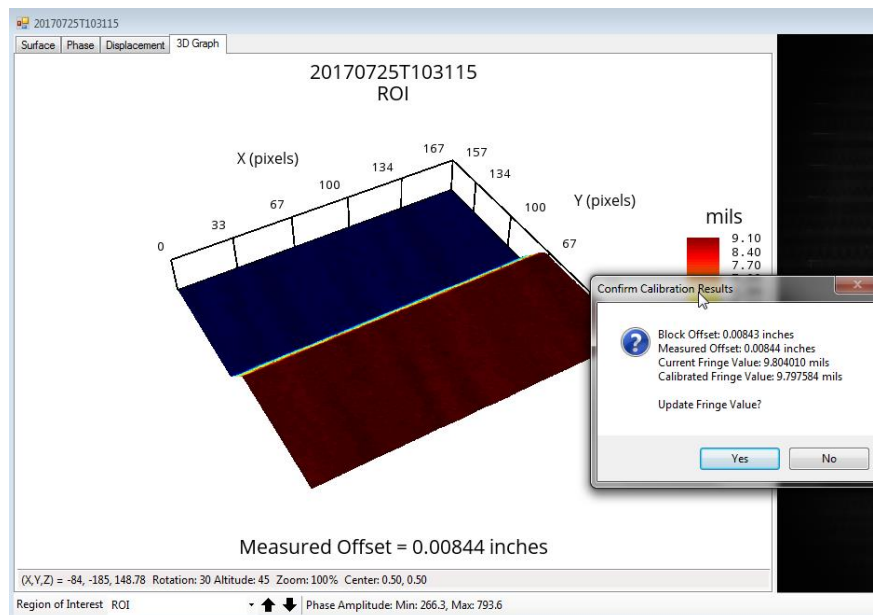

Figure 2.35 Fringe Value Result
- Right click within the ROI and click **Acquire...** The calibration process is initiated and a result window pops up afterward (**Figure 2.35**), showing the user entered value, the measured value, the old Fringe Value, and the proposed new Fringe Value.